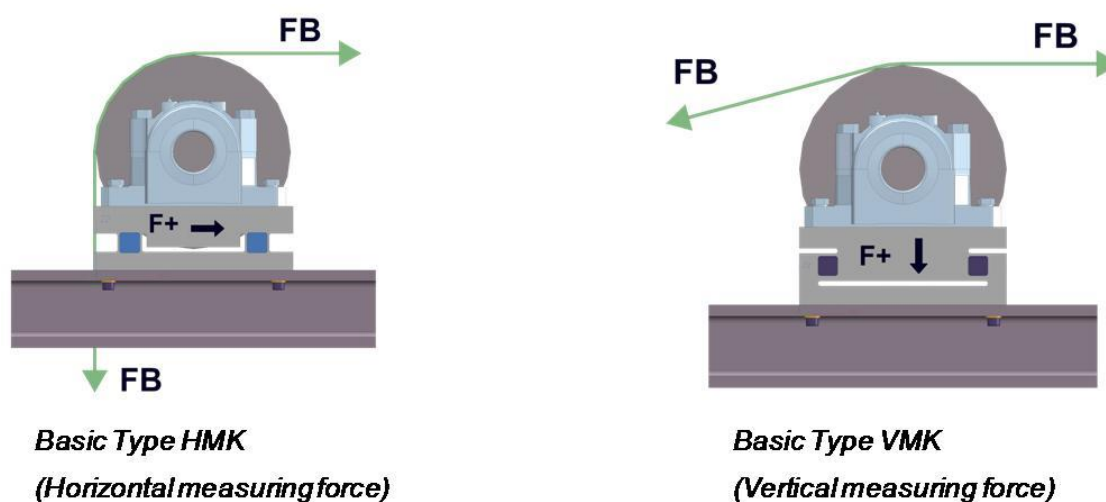

Figure 9: Overview basic types of the force transducers
- Basic Type HMK (Horizontal measuring force), according the figures 9 – left example and 10.
- Basic Type VMK (Vertical measuring force), according the figures 9 – right example and 11.